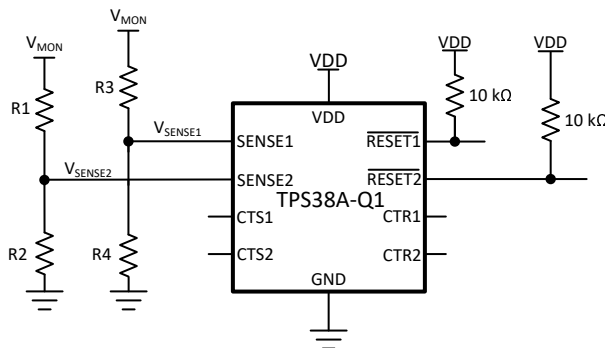

图 10-1. Adjustable Voltage Threshold with External Resistor Dividers
For example, consider a 12 V rail being monitored V_{MON} for undervoltage (UV) using channel 1 of the TPS38A010122DSKRQ1 variant. Using 方程式 7 and shown in 图 10-1, R_1 is the top resistor of the resistor divider that is between V_{MON} and V_{SENSE2} , R_2 is the bottom resistor that is between V_{SENSE2} and GND, V_{MON} is the voltage rail that is being monitored and V_{SENSE2} is the input threshold voltage. The monitored UV threshold, denoted as V_{MON-} , where the device will assert a reset signal occurs when $V_{SENSE2} = V_{IT-(UV)}$ or, for this example, $V_{MON-} = 10.8V$ which is 90% from 12 V. Using 方程式 7 and assuming $R_2 = 10k\Omega$, R_1 can be calculated shown in 方程式 8 where I_{R1} is represented in 方程式 9: